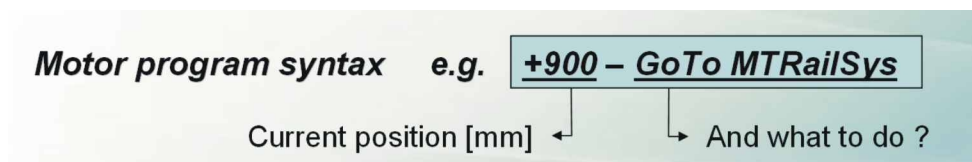

Fig 3.5. The syntax of the motor program.
In principle all motor programs have a syntax which consists of the present position of the string (precondition to execute this program) and the task that you desire to do. The following figure 3.5. gives an example of how the motor programs appear in the main menu (10).